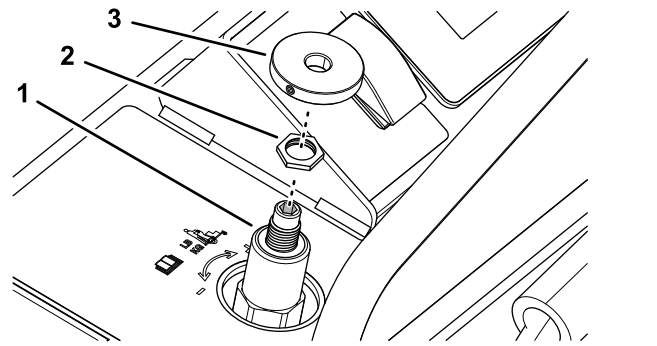

Figure 56
1. Ensure that the setscrew in the weight control knob is rotated counterclockwise enough so that the knob slips over the shaft of the weight control valve (Figure 56).
2. Ensure that the jam nut on the shaft of the weight control valve is tightened (Figure 56); refer to step 6 in Adjusting the Operator Weight Control Valve \(page 45\).
3. Assemble the knob onto the shaft of the weight control valve (Figure 56).
3. Loosen the jam nut for the weight control valve, refer to Figure 56 in Assembling the Weight Control Knob \(page 45\).